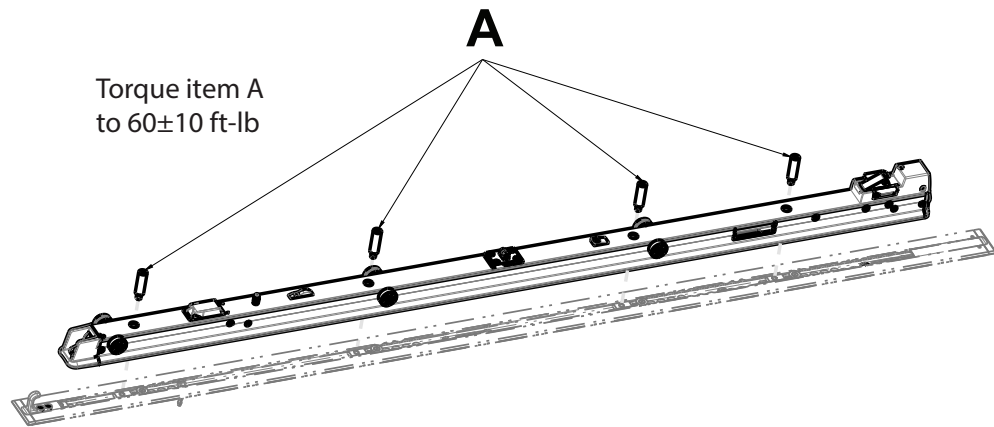

Figure 46 – Remove the anchor mounting posts
3. Using a 3/8" hex driver, remove the four anchor mounting posts (A) that secure the anchor to the floor plate (Figure 46).